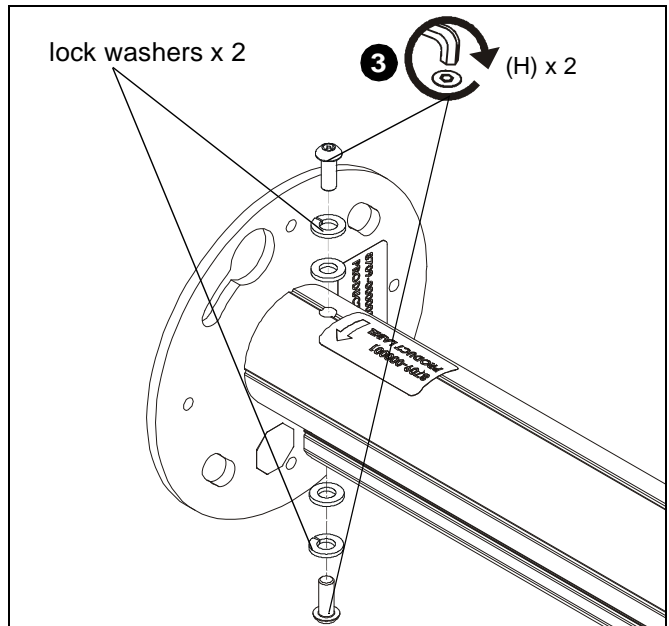

Figure 3
3. Use two M6 x 16mm security screws (H) and washers removed in Step 2 to secure KITEC/KITMC Series mount column to adapter plate. (See Figure 3)
IMPORTANT ! : Washers must be reinstalled in the same order with the lock washers being closest to the screw heads. (See Figure 3)